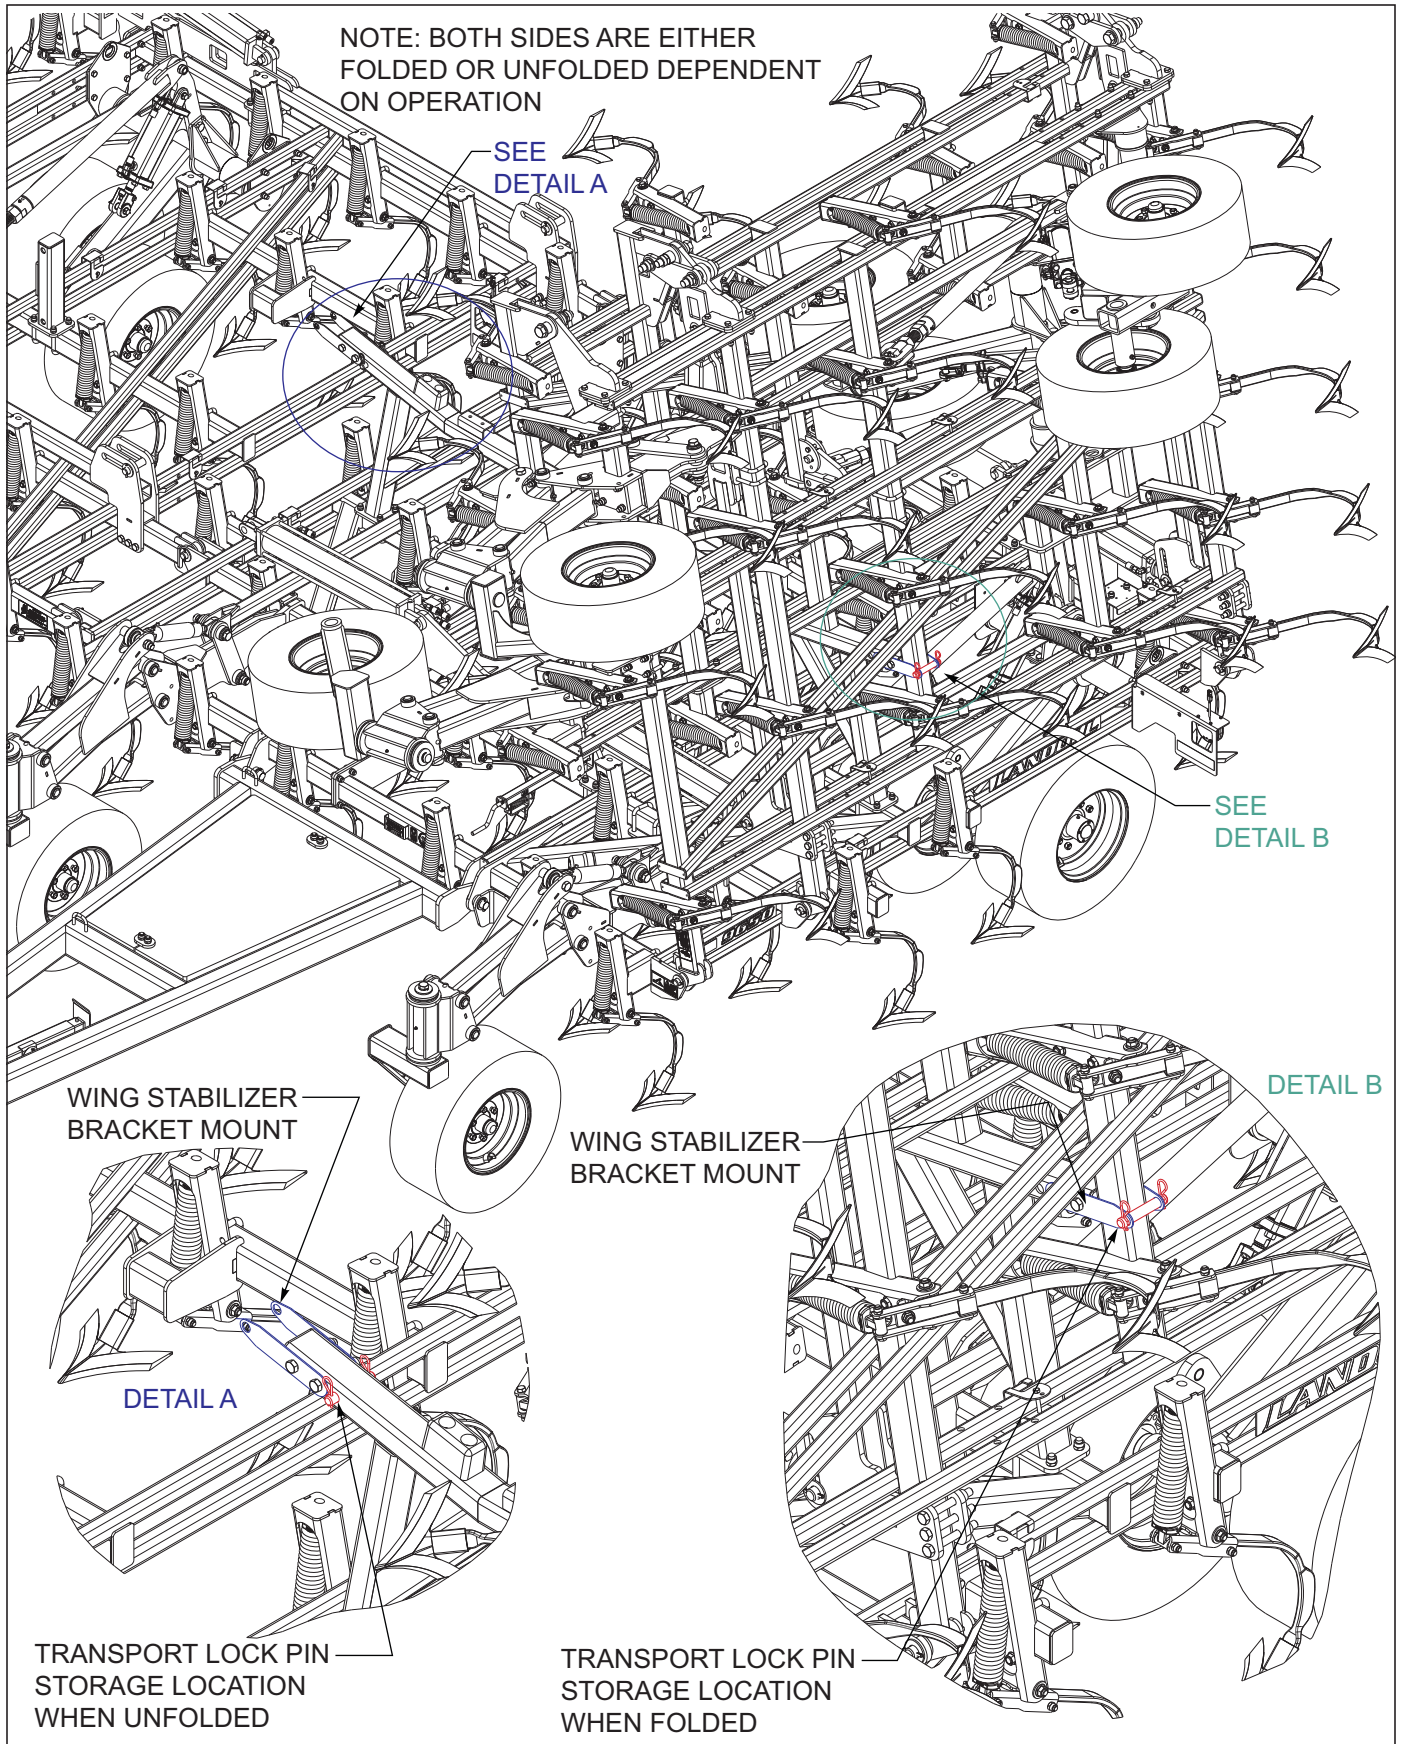

Figure 4-4: Wing Stabilizer Bracket Locks
4. To fold/unfold the Field Cultivator, find a level area large enough to accommodate the machine when it is fully unfolded. ***Stay away from power lines when folding/unfolding implement. Electrocutation can occur without direct contact.*** The tractor should be stopped and not moving with the implement fully raised. Remove the wing transport lock pins from the mounts and install them in the storage locations *See Figure 4-4*.
5. Slowly engage the tractor lever and fold/unfold the wing frames. When the wings are unfolded, continue holding the tractor lever to fully extend all fold cylinders. This will allow the wings to fully flex in the field. When the unit is fully folded, remove the wing transport lock pins from the storage location and install in the mounts provided on each side of the machine *See Figure 4-4*.
9. Storage - For extended periods of non use, it is best to store the Field Cultivator inside if possible. If the unit must be stored outside for extended periods, it is best to apply a light coating of oil or grease to exposed cylinder rods to prevent them from rusting. If the unit is stored in the folded position, make sure the wing transport lock pins are installed to prevent wing frames settling *See Figure 4-4*.